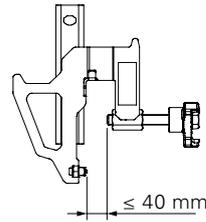

Fig. A2.10a
- Sheet piling thickness: ≤ 40 mm. (Fig. A2.10a)